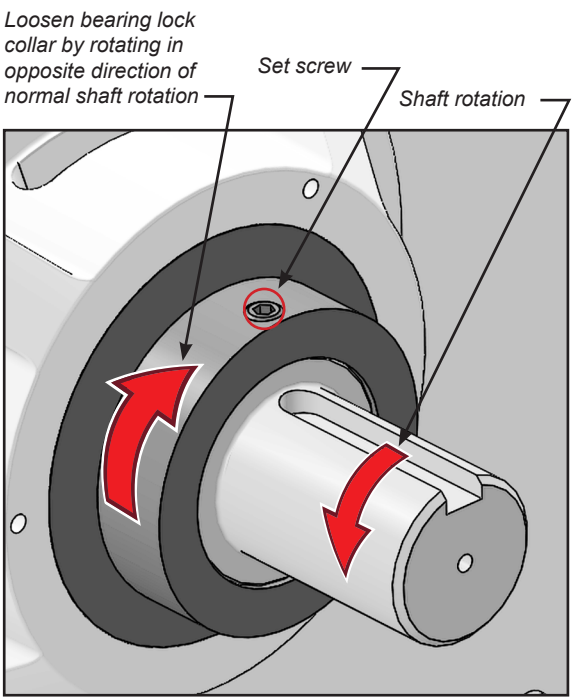

FIGURE 21
5. Loosen bearing lock collar set screw (Figure 21).
6. Disengage bearing lock collar from bearing by turning it using a punch and hammer. Loosen by rotating the collar in the direction opposite of normal shaft rotation (Figure 21).
- 29. Lock bearing in place by locking eccentric lock collar in direction of rotation and tighten set screw (Figure 21).